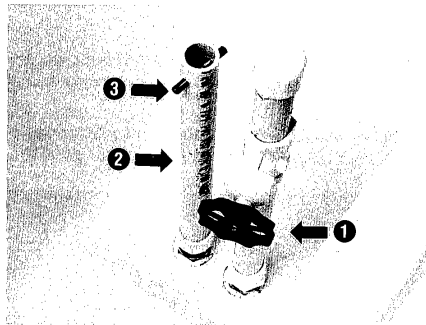

Figure 15
1. While the boat is running, remove the drain tube (2) from the bottom of the baitwell. To remove the drain tube, turn the rod (3) counterclockwise. See figure 15.